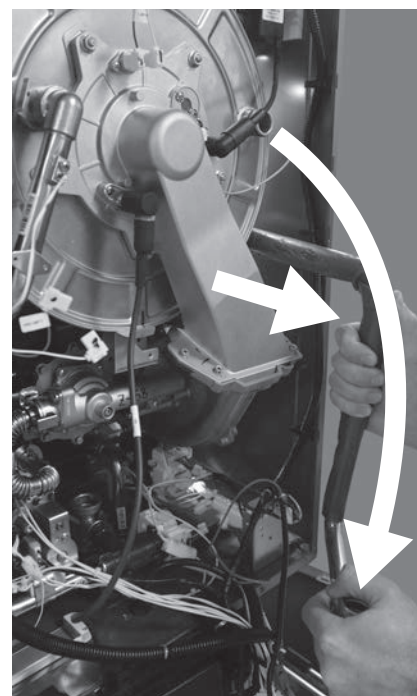
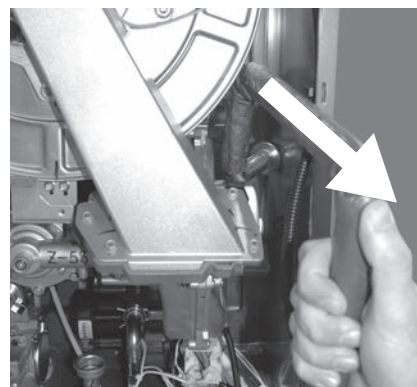

Figure 194 - Lift & pull HEX inlet tube toward you
Figure 195 - Remove HEX inlet tube
- 18** Disconnect HEX inlet tube from heat exchanger and outlet tee. To remove HEX inlet tube from water heater, lift upward and pull top of tube toward you as shown in Figure 194. Guide HEX inlet tube around the right side of heat exchanger and above fan assembly as shown in Figure 195. Dispose of HEX inlet tube properly.